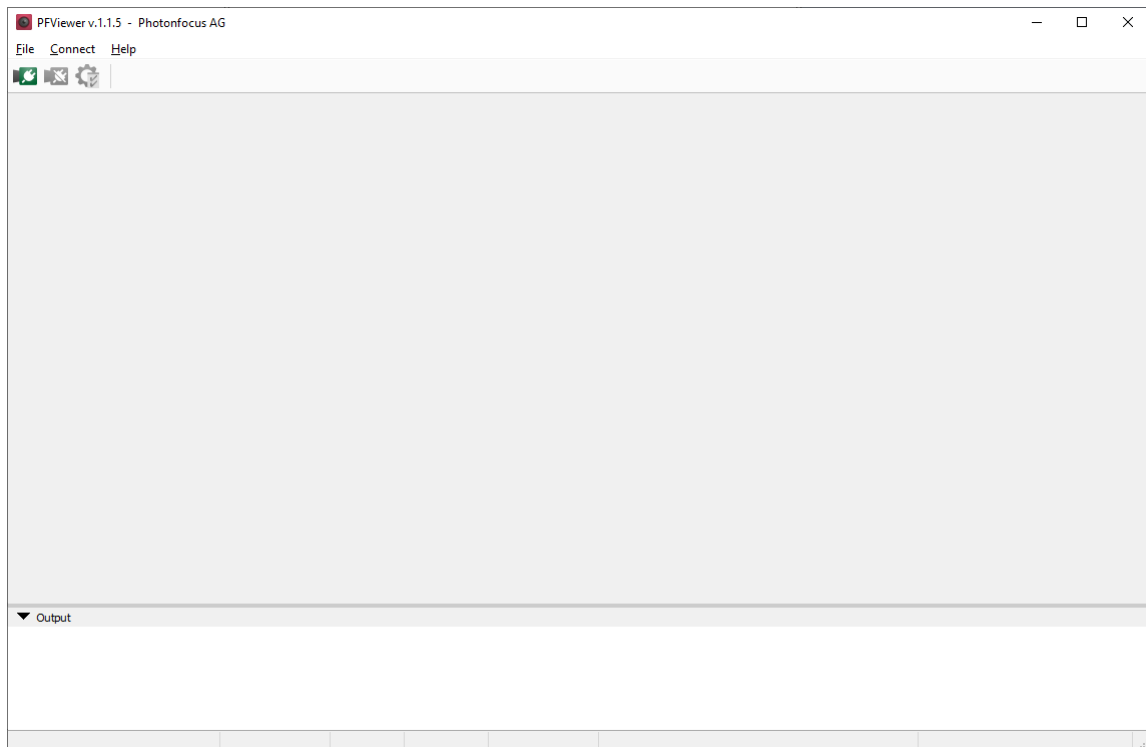

Figure 2.7: PFViewer start screen
1. Open the PFViewer software (Start -> Photonfocus -> PFViewer) which is a GUI to set camera parameters and to see the grabbed images (see Fig. 2.7).